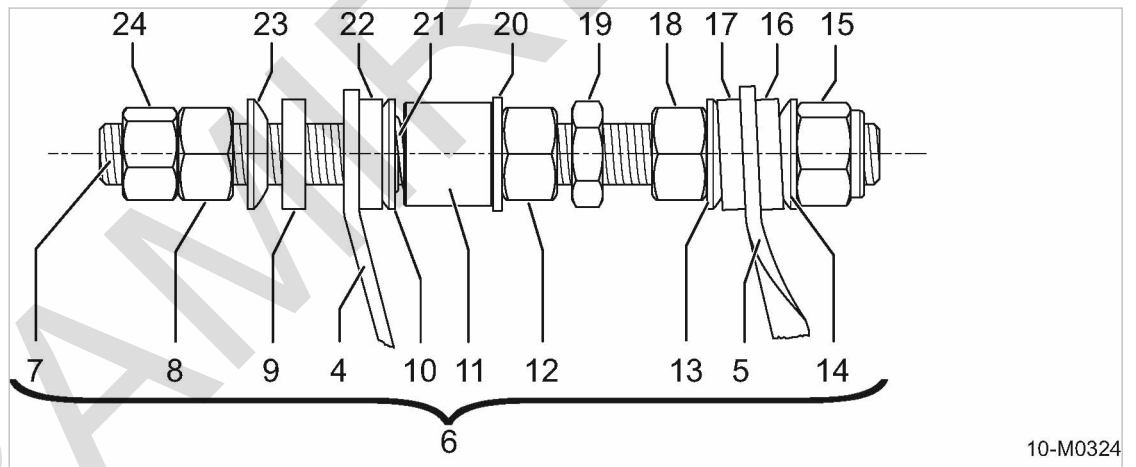

Fig. 81 Generator belt tensioner
See chapter 10.8.6.3; Figure 81.
(see figure 81 for location).
1. Remove the tensioning device (see Fig. 81).
- Loosen nuts (24) and (8) and lock together at the end of the threaded rod (7).
- Loosen nuts (19) and (12) on the tensioning frame (4) until the belt is completely slack.
- Loosen the locking nut (18).
- With the help of the nut (6), unscrew the tensioning device (8) from the locknut (15).
- Remove the tensioning device (6) from the tensioning frame (4) and belt tensioner holder (5).
3. Mount the tensioning device (see Fig. 81).
- Mount the tension device (6) in the tensioner holder (5) and tensioning frame (4) as illustrated.
- Lock the nut (8) to the nut (24).
- Tighten the tensioning device (6) to the side of the motor with the nut (15). For this, the tensioning device must be screwed into the locknut (15).
- Use a wrench to fixate the nut (18). Use another wrench to turn nut (8) counter-clockwise. Secure the nut (18) with a drop of liquid thread lock to prevent a potential loosening due to vibration stresses.